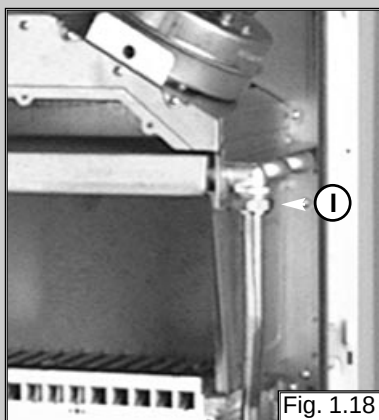

Fig. 1.18
2. Release the two connection nuts "I" connecting the exchanger to the flow and return pipes (see fig. 1.18);